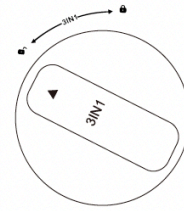

Figure 4
2. Insert the 3-in-1 Cartridge Z1-E020-C in upper hole, the triangle icon on top of filter element should be pointed at the lock icon (Figure 4).